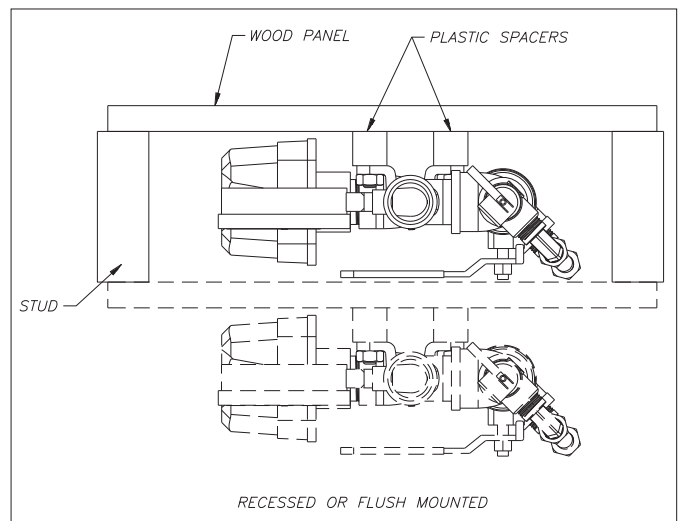

Fig.7
- Recessed or Flush mount (to wood panel) (Fig. 7).
9. Dedicated UL Listed and ULC Listed Water Flow Detector assures optimum sensitivity. Water Flow Detector is factory installed with a metallic, weatherproof cover. Triggering flow rate is 4(15) GPM(LPM) to 10(38) GPM(LPM).